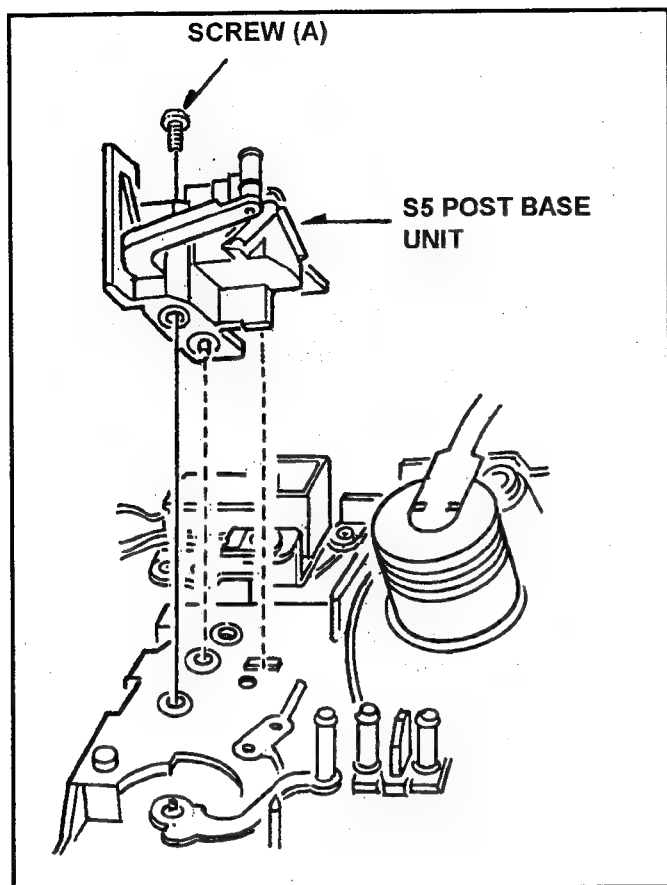

Fig. 6-17-1 Removal of S5 Post Base Unit
3. Unscrew the screw (A) and remove the S5 Post Base Unit as shown in Figure 6-17-1.
1. Install the S5 post Base Unit follow the removal steps in reverse order, then be careful the S5 Post Base Unit is install to mech chassis as shown in Figure 6-17-1.
2. After installation, Post Height pre-adjustment (Refer to item 5-4) and Linearity adjustment (Refer to item 5-12 [Tape Pass Adjustment Procedure]) should be performed.